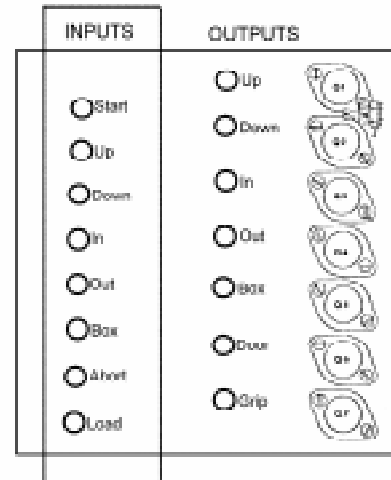

Figure 55B
5. Check logic board to see if "OUT" input light is lit (see Figure 55B). If lit, proceed to step 6. If not lit, turn adjusting screw as necessary to move switch toward slot in vane until OUT input light is lit. (The switch should be at the bottom of the vane slot.)